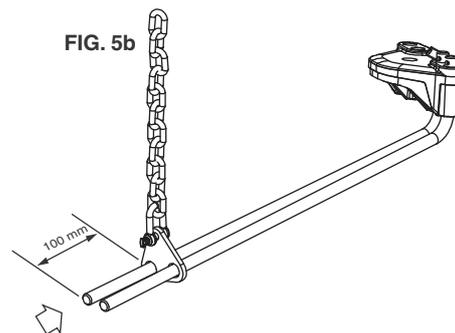

FIG. 5c
- Locate link of chain on the hook on the snap up bracket. Slide the easy lift handle on the snap up bracket and raise handle. Ensure the chain lifter passes over the centre. While keeping pressure on the easy lift handle, slide the safety pin through the small hole to lock the chain lifter in position. Repeat steps 3 through to 6 for the other side of the trailer or caravan. Check the level of the vehicle and trailer by measuring heights at the positions in step 1 preparation the front and rear of the vehicle should settle to original readings within 15mm (**FIG. 5c**).